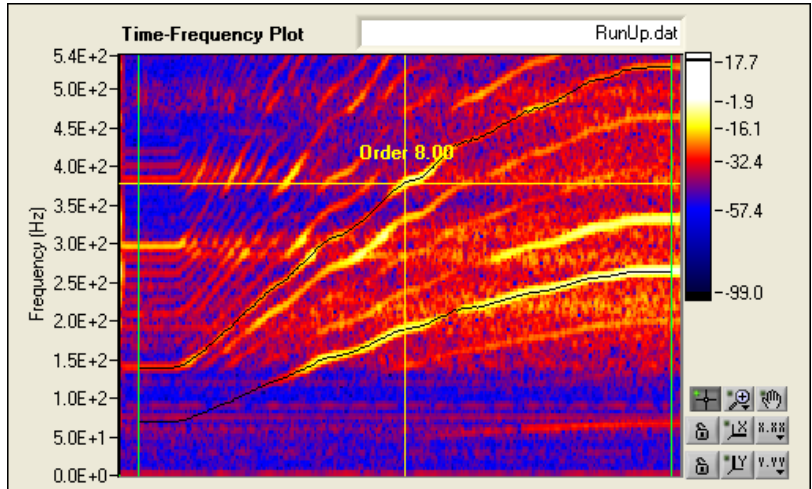

Figure 4-4. Final Order Line
7. Click the **Refine** button to get the final order lines in the **Time-Frequency plot**. The OAT Tachless Speed Profile Generator VI computes the simulated speed profile based on this order line. Figure 4-4 shows the final order line.